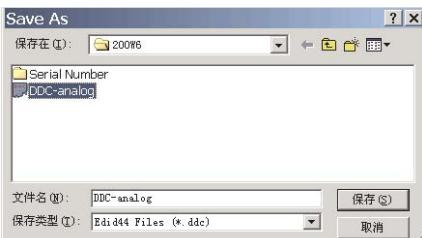

Fig. 25
1. Click  (Save) icon (or click "file"-> "save as") from the tool bar And give a file name as shown in Fig. 25.